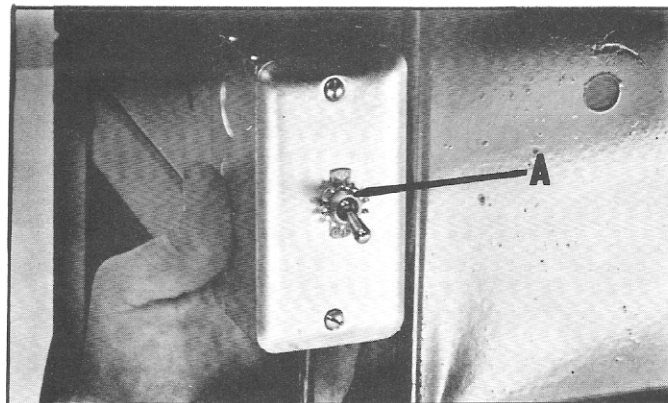

Fig. 13
1. Remove outer hex nut from switch stem. Leave shakeproof lockwasher (A) Fig. 13, and inside hex nut on switch. **NOTE:** The proper grounding of the switch to prevent shock hazard, depends on the use of the shakeproof lockwasher in the manner shown.